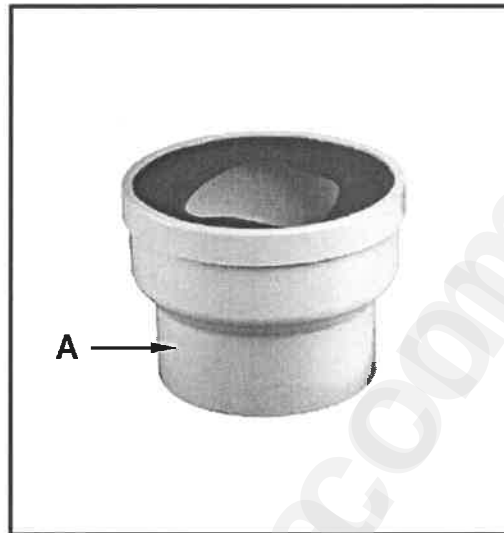

FIGURE 6.3
6.3 FIGURE 6.3 below shows a fitting that is used in a drainage system.